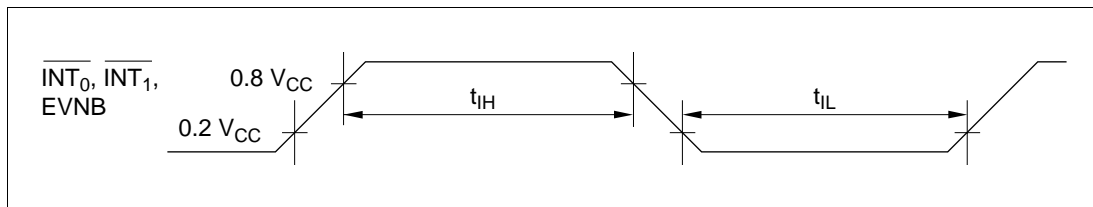

Figure 25-32 Interrupt Timing (HD404369 Series)
4. See figure 25-32.
5. See figure 25-32.